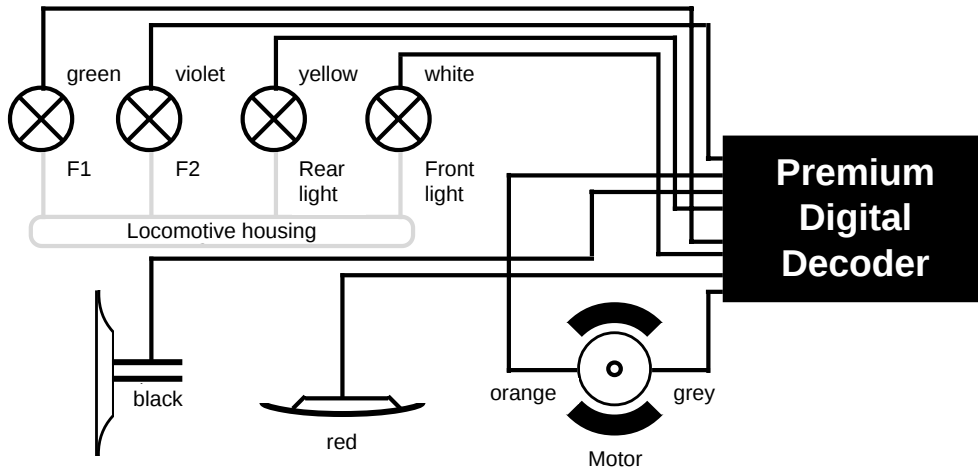

Fig. 3: Connection of the Premium Digital Decoder in locomotives with **special functions** wired to the **housing earthing**
- b) The lamps/functions are connected together against the locomotive earth (e.g. almost all Märklin® locomotives and older Fleischmann or ROCO locomotives). This case is illustrated in **Figure 3**.
Locomotives that are wired up according to **Figure 3** continue to require an analogue smoke insert as before.